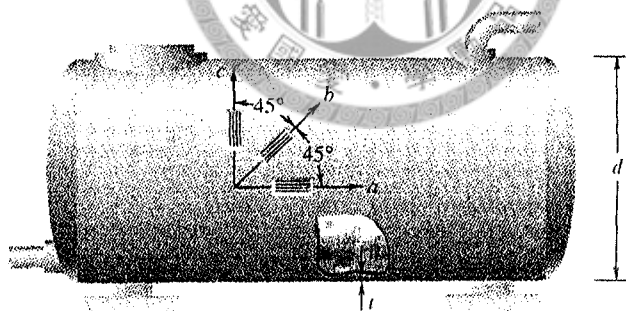

Figure 5
5. The pressure in a cylindrical tank as shown in Figure 5 is monitored by a  $45^\circ$  strain rosette mounted on its surface. Unfortunately, during service, gages  $a$  and  $c$  have become inoperative. Only gage  $b$  gives a strain reading of  $100 \times 10^{-6}$ . If  $d = 1 \text{ m}$ ,  $t = 10 \text{ mm}$ ,  $E = 207 \text{ GPa}$ , and  $\nu = 0.3$ , find the pressure in the tank. (15%)